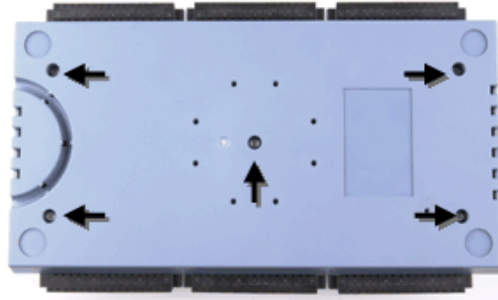

Figure 16. Location of screws connecting bottom and top sections of case
2. Remove the five screws shown in Figure 16 from the bottom of the module.